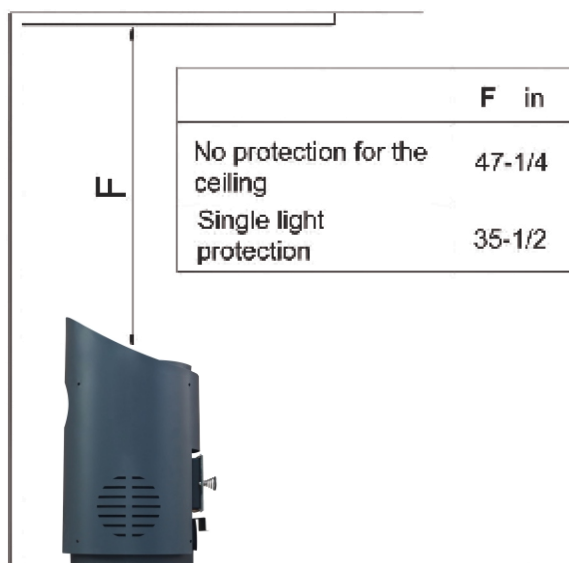

Figure 6
Provided the distance between the stove top and the ceiling is minimum 47-3/4", no special protection is needed for the ceiling. If the distance is less than 47-3/4", you can choose one of the protection methods mentioned in items 1-3. The ceiling protection must extend above the vertical surfaces of the stove. (Figure 6)